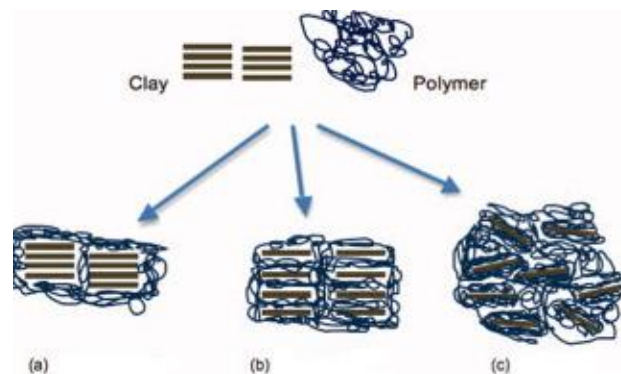

Figure 1: (a-c) Three types of dispersion of clay-polymer nanocomposites
- (c). **Figure 1** shows the three types of dispersion in the processing clay in polymer matrices. Referring to a schematic diagram in **Figure 1**, discuss how dispersion (a), (b) and (c) can be achieved in polymer matrix composites. Explain a method to achieve the best dispersions of clay in viscous polymer matrix.